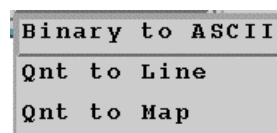

Fig. 4 Conversion menu
The Conversion menu opens as shown in Fig. 4.
1. Select **Binary to ASCII** from the Conversion menu (☞ Fig. 4).
1. Select **Qnt to Line** from the Conversion menu (☞ Fig. 4).
1. Select **Qnt to Map** from the Conversion menu (☞ Fig. 4).